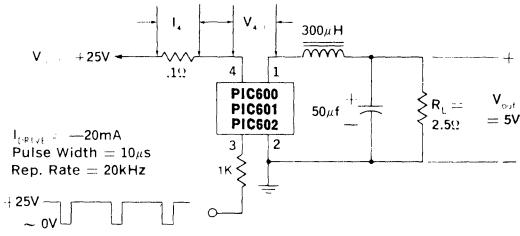

Figure 1. PIC600, 601, 602 Switching Speed Circuit
- The efficiency is a measure of internal power losses and is equal to Output Power divided by Input Power. The switching speed circuit of Figure 1, in which the efficiency is measured, is representative of typical operating conditions for the PIC600 series switching regulators.